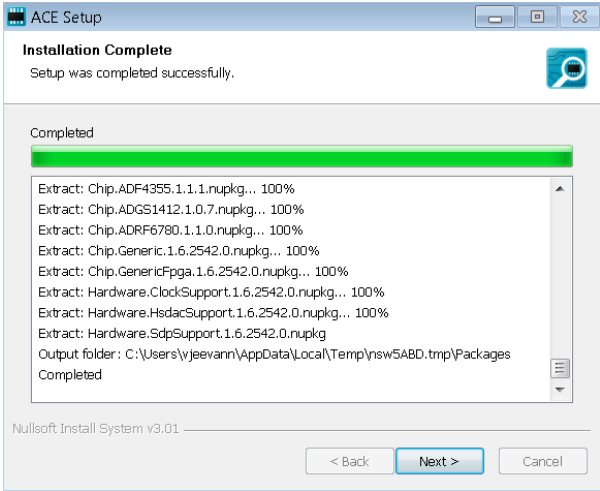

Figure 9. Installation Complete
9. When the installation is complete, click **Next >** (see Figure 9), and then click **Finish** to complete the installation process.